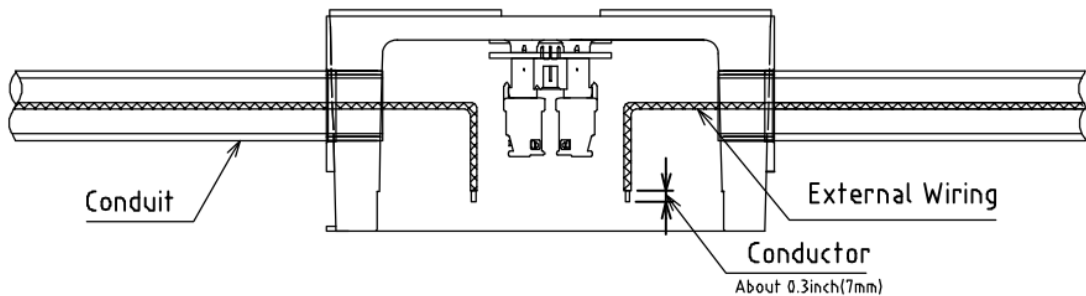

Figure 5 - Install Base
- 1) Install the base according to "6.2 Mounting", and complete the installation of the system conduit. Insert the external cable within the base and close the unused NPT1/2 or M20 entry with the plug (See Figure 5). Conductor insulation of external wiring should be stripped off with a bare conductor length of about 0.3 inch (7 mm)